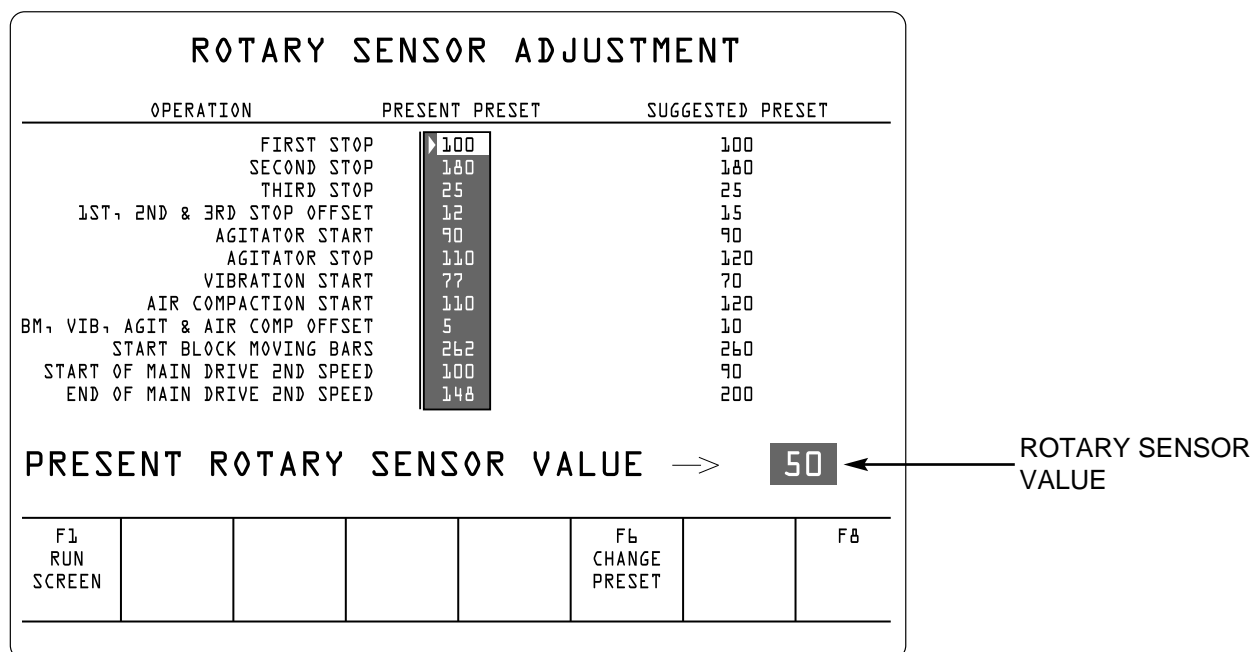
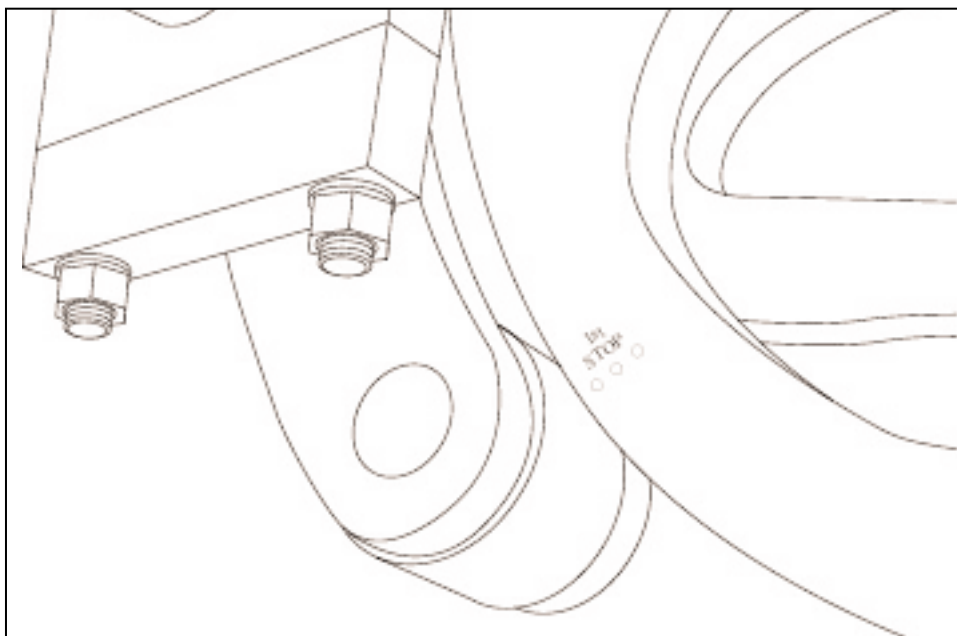

Figure 7.1 ROTARY SENSOR ADJUSTMENT SCREEN.
Figure 7.2 "FIRST STOP" (R.H. side of machine).
7.1 As an **initial condition**, cycle the machine to the “first stop” position “First stop” is obtained when the punch marks on the cam are in line with the roller.(see figure 7.2). In this position, the feedbox should be all the way forward and the roller should be centered on the first stop mark of the pallet receiver cam. At this point, the “Rotary sensor value” should be indicating 100° on the rotary sensor adjustment screen (see figure 7.1, for more details see section 10.4). To reach this screen, press “F2” from the main menu.